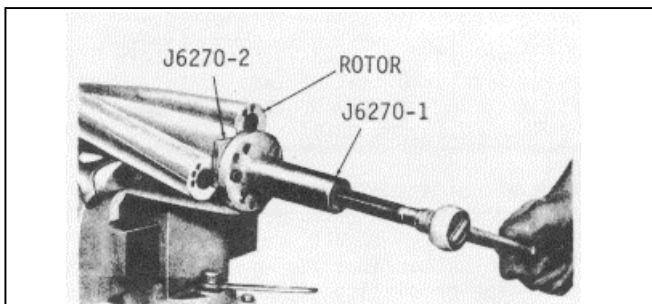

Fig. 7. Removing Oil Seal Ring Carrier from Blower Rotor Shaft
- (d) Refer to Fig. 7 and place the seal ring carrier remover adapter J 6270-2 over the carrier. Make sure the adapter is seated in the groove of the carrier.
- (g) Turn the puller screw clockwise and pull 6 the oil seal ring carrier from the rotor shaft (Fig. 7).